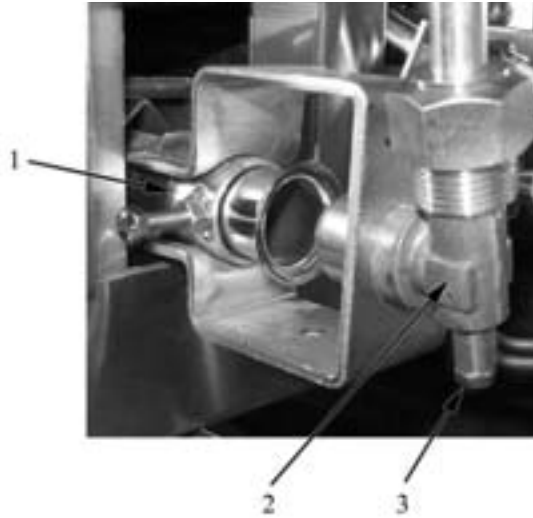

Fig. 10
- unscrew the screw shown in pos. 3 in Fig. 10;